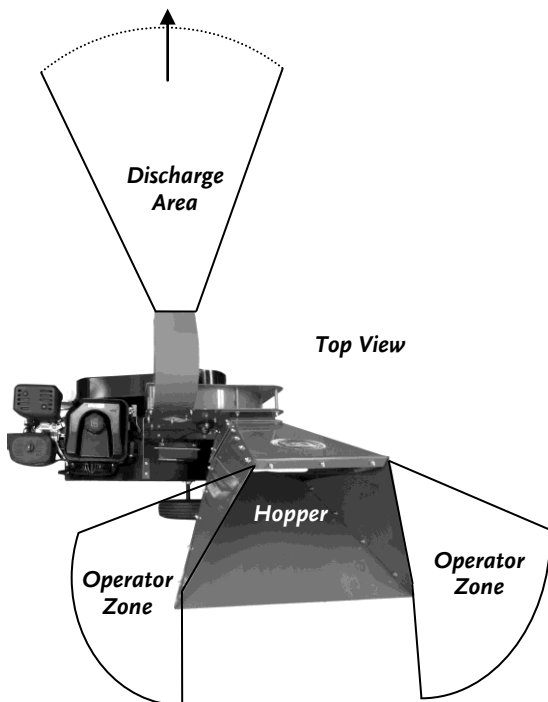

Figure 17
- Only operate the DR SELF-FEEDING WOOD CHIPPER from the Operator Zones shown (**Figure 17**).